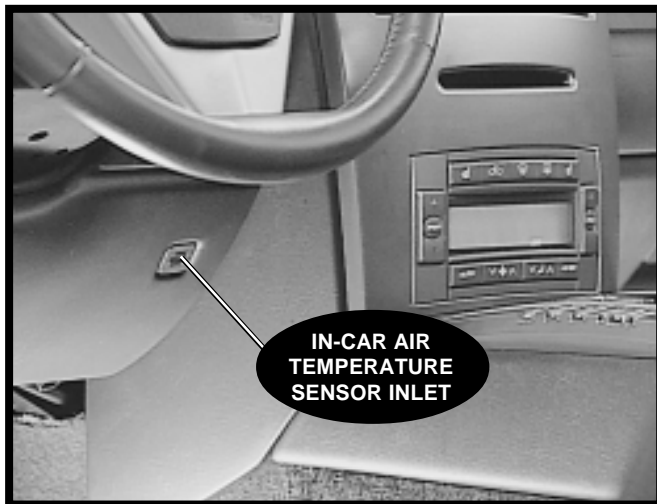

Figure 5-14, In-Car Air Temperature Sensor Inlet
- The in-car air temperature sensor is in the instrument panel with a small internal fan that brings air to the sensor (figure 5-14)